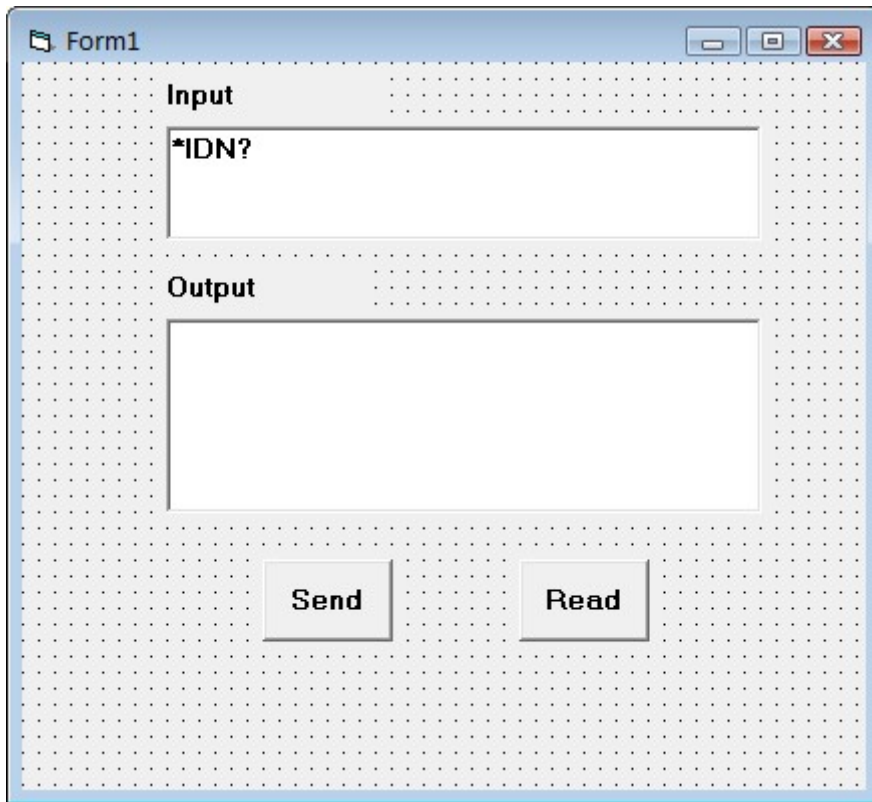

Figure 4-2-2
3. Add two Lables respectively named as Input and Output, two TextBox and two CommandButtons named as Send and Read seperately. Set Text in the attribute of TextBox under Input as \*IDN?. See figure 4-2-2.